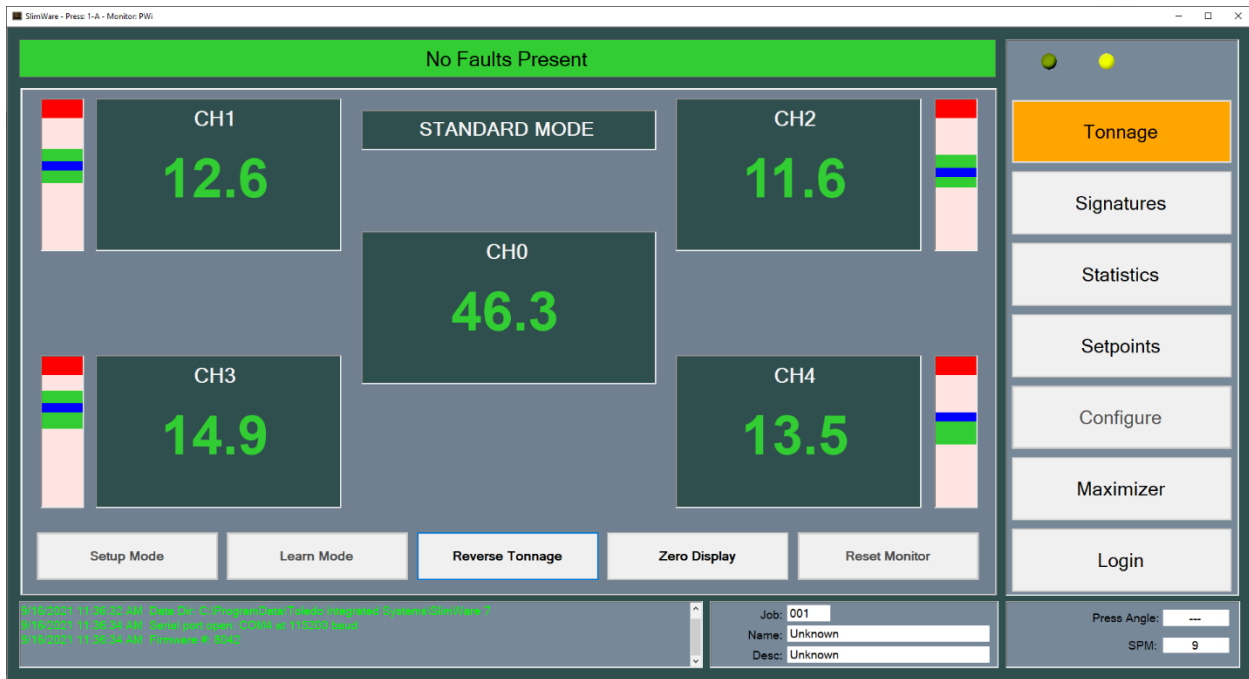

Figure 5-1 – Tonnage Screen (4 Channel)
Figure 5-1 shows a typical four (4) channel monitor. Each corner displays the current tonnage and will turn red if an alarm is flagged for that channel.
- Standard (Shown in figure 5-1)